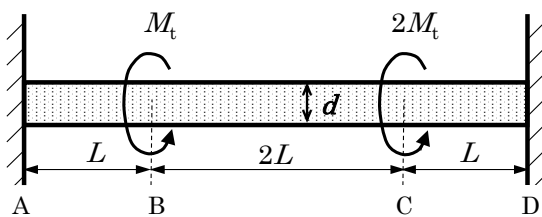

Fig. 6
5. There is a solid circular shaft with diameter, d , and total length, $4L$, both ends of which are fixed to the wall. The shaft is made of a brittle material and its shear modulus of elasticity is G . A torsional moment, M_t , is acting on the shaft at the position L from its left end, and a torsional moment twice as large (i.e., $2M_t$) is acting in the same direction on the shaft at the position L from its right end, Figure 6. Here, M_t is a variable. It is known that if magnitude of M_t is gradually increased and when M_t reaches M_{t0} , the shaft fails with exhibiting fracture surface characteristics of brittle materials. Answer the following questions.